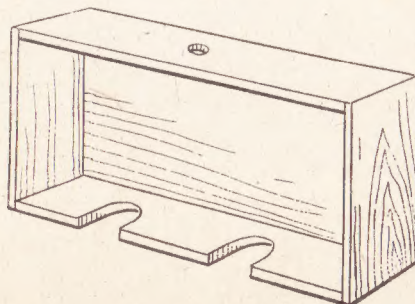

Fig. 8
A simple cover for the solenoid is shown in Fig. 8, and is made to fit tightly over the baseboard. It will be safer for the reader to take the necessary measurements from his own finished model. The cover should be painted to match the decorations of the entrance hall. (119)